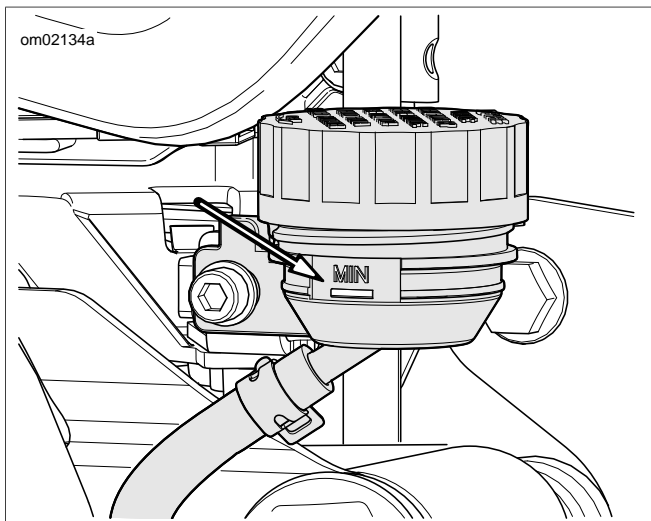

Figure 30. Rear Master Cylinder Reservoir MIN Level
3. **Rear:** See Figure 30. Check level on side of rear brake reservoir. Level must be above MIN.